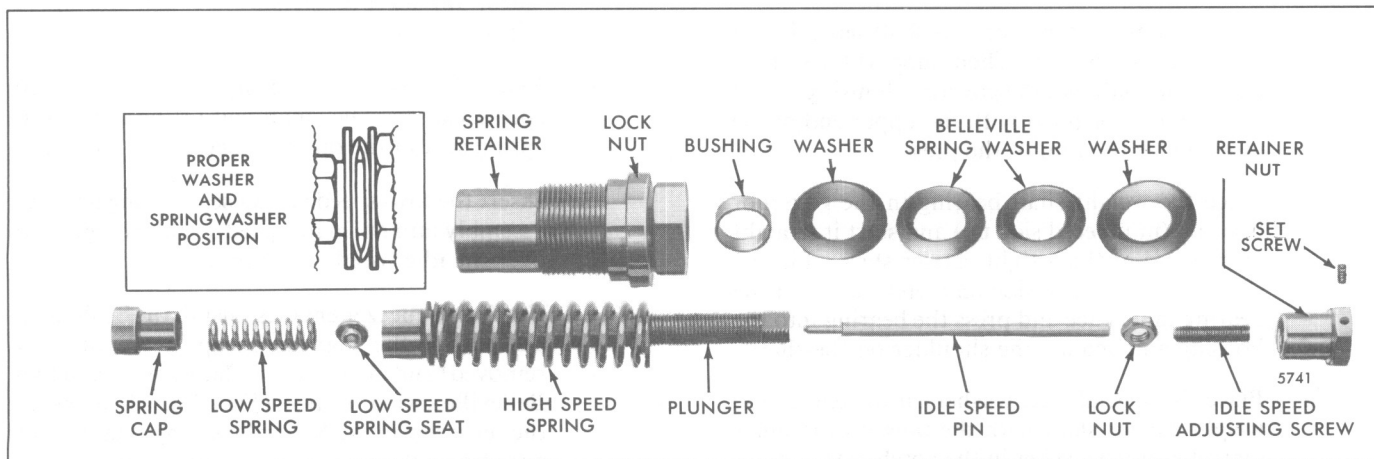

Fig. 23 – High and Low-Speed Springs and Plunger Details including Belleville Washers (Fuel Squeezer Engines)
- e. For Fuel Squeezer engines, install the bushing in the end of the high–speed spring retainer (if removed) and align the two flat washers and two Belleville spring washers (Fig. 23). Then, install the set screw in the Belleville spring retainer nut and thread the retainer nut onto the high–speed plunger.